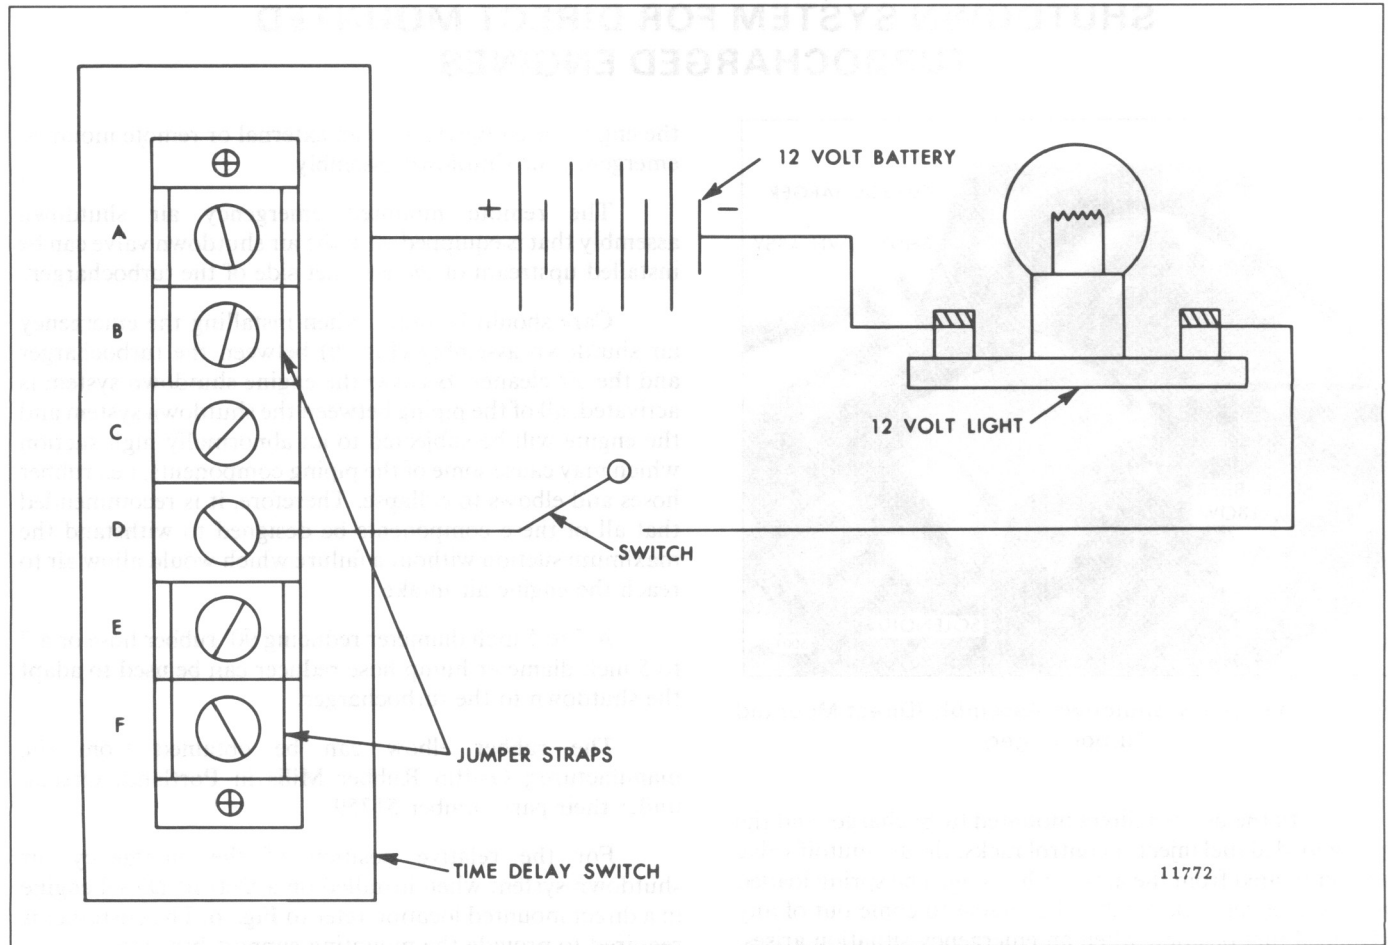

Fig. 5 – Solid State Time Delay Switch Testing Diagram
2. Refer to Fig. 5 and install the jumper straps on terminals A to B and E to F.